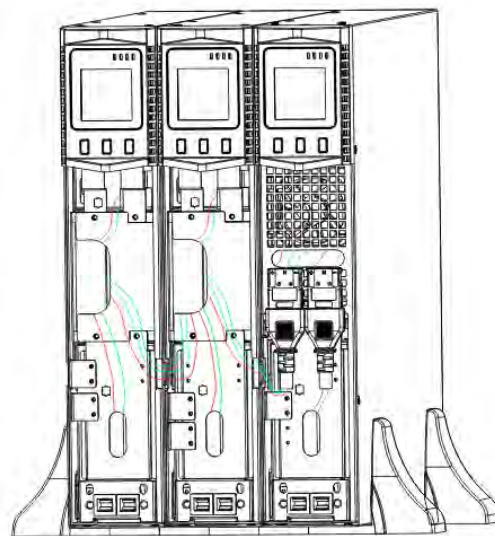

FIG.16 The installation for UPS and battery box
2. The installation between UPS and EBPS can be referred to Fig.16
1. Install the base, then place the RT UPS on the base one by one as Fig.16 shows.